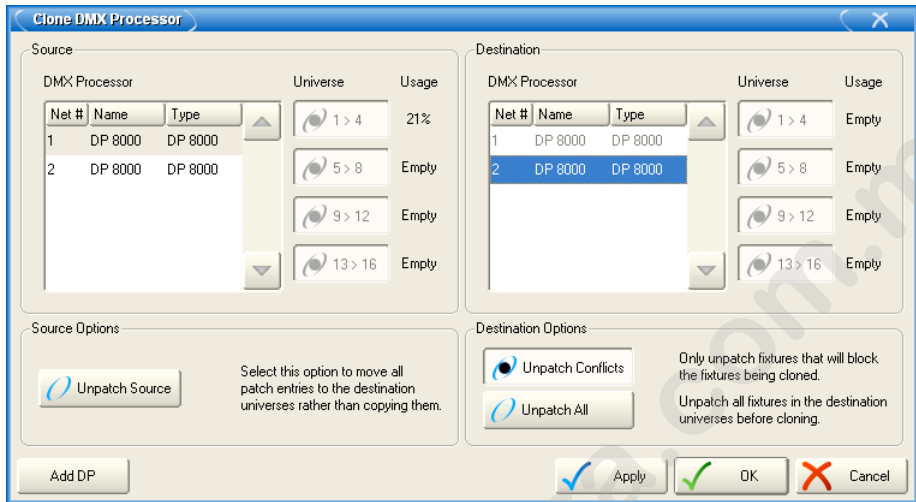

Figure 14.12. The Clone DP window
3. Press Clone DP. The Clone DMX Processor window will open; see *Figure 14.12, "The Clone DP window"*.